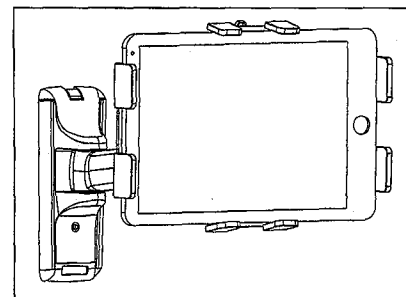

Fig. 3
- 2 Load your tablet in and adjust the tablet mount adaptor size according to your tablet size, make sure the tablet is stable and safe in the tablet adaptor (see Fig. 3). Do not release the tablet until the tablet is securely placed in the tablet adaptor and the lock /release lever is in the locked position.